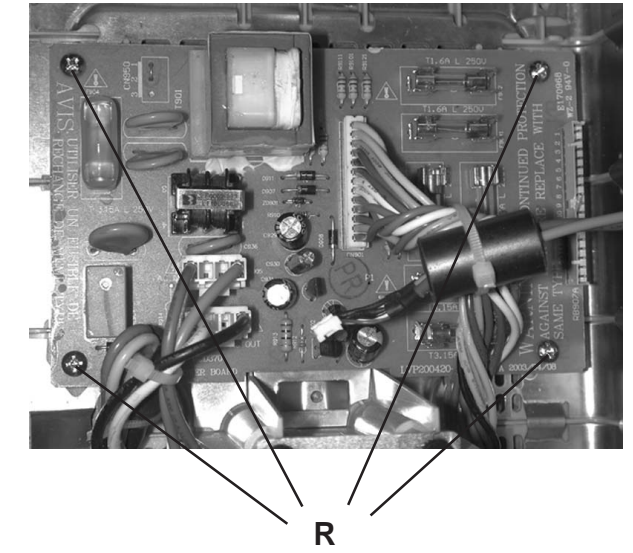

Figure 15
- 1) Loosen 4 screws "R" as shown in Figure 15.